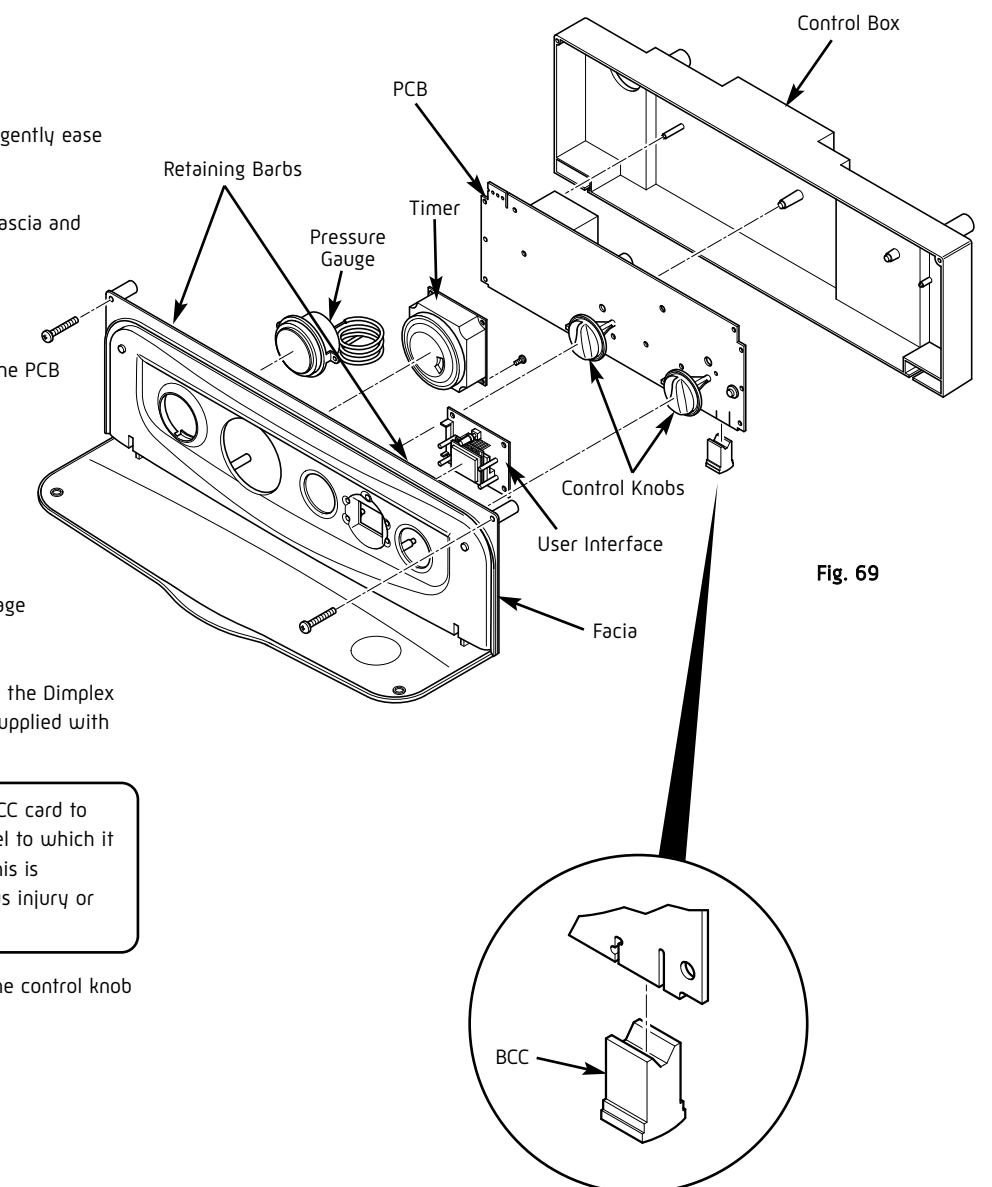

Fig. 69
2. Undo the screws holding the control box and gently ease the box forward (Fig. 69).
5. Note the positions of all the connections on the PCB and disconnect them. (DO NOT REMOVE THE YELLOW BCC (Fig. 69))
2. Dismantle the control box as described above to gain access to the PCB (Fig. 69).